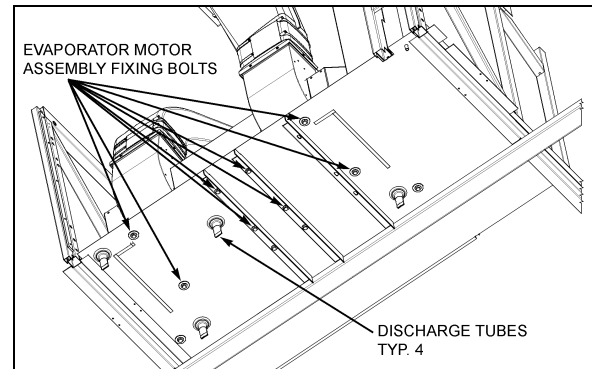
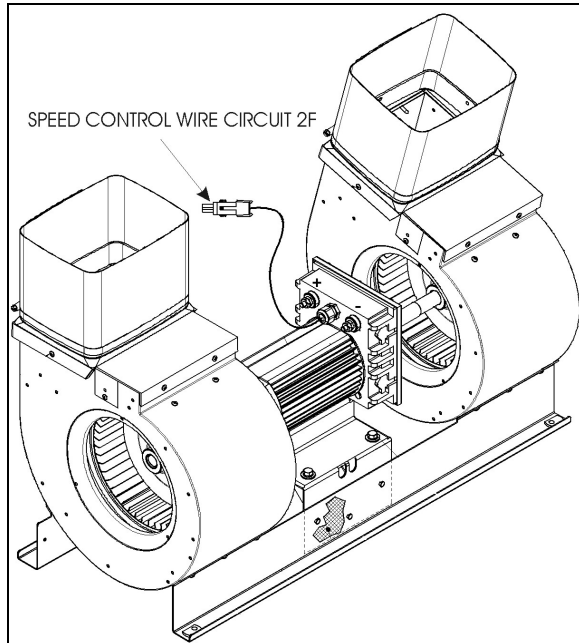

FIGURE 25: EVAPORATOR MOTOR BOLTS
FIGURE 26: EVAPORATOR MOTOR ASSEMBLY
- From under the vehicle, remove the eight bolts retaining the evaporator fan motor support. Remove the complete unit from the evaporator compartment (Figure 25 & Figure 26).